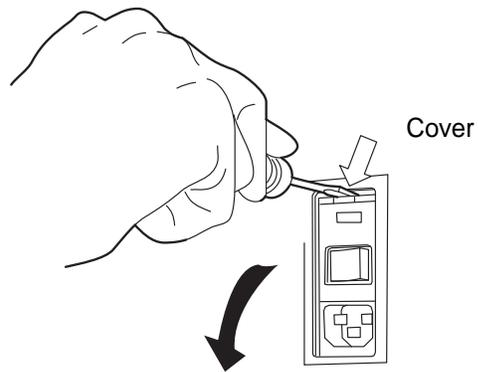

Figure 4-30 Remove Fuse Access Cover
4. Using a small #1 slotted screwdriver, carefully pry open the cover of the power entry module (Figure 4-30).